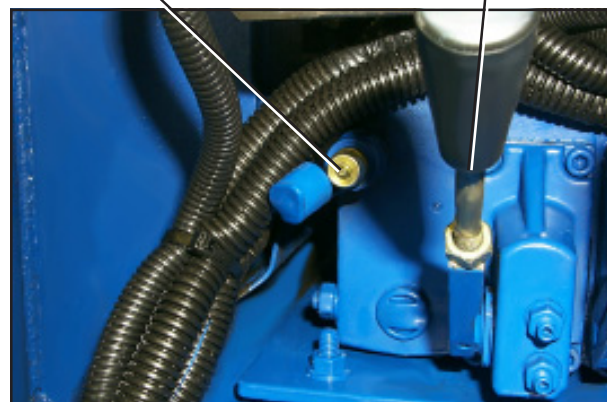
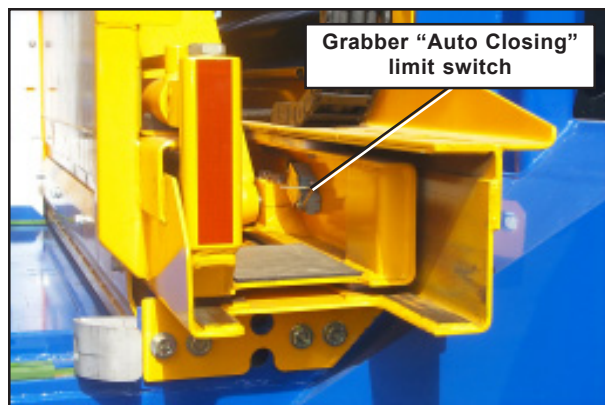

Figure 2.10
Figure 2.11
4. Connect a 0-4000PSI pressure gauge on the quick coupler of the proportional valve (Figure 2.10).
10. Open the grabber and adjust the relief valve for the "grabber open" side of the valve section (Figure 2.11) to 2100PSI.
The "Auto-Closing" system is controlled by a limit switch located under the grabber arm (Figure 2.10) and a pressure switch on the proportional valve (Figure 2.11).
Then, the hydraulic pressure is sent to the cylinder, closing the grabber before it collides with the hopper walls. In order to prevent pressure build up in the system, a pressure switch (Figure 2.11) was added on the proportional valve to cut the signal from the limit switch. The pressure switch is set to cut the signal when the hydraulic pressure reaches approximately 800 PSI inside the cylinder.